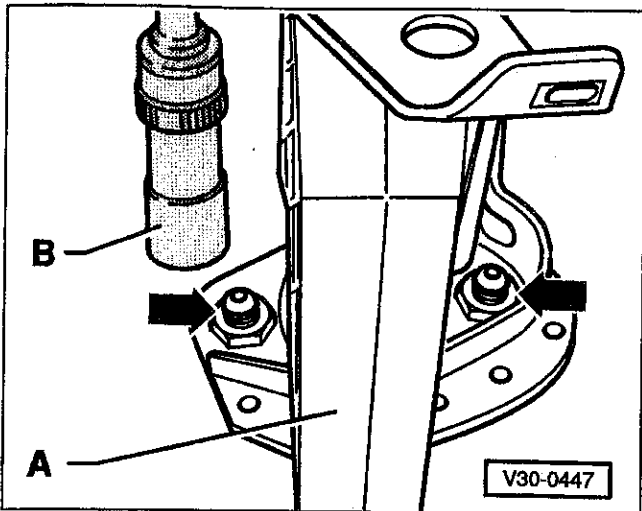

Fig. 10. Master cylinder mounting nuts (arrows). Use a 13 mm deep-well socket (B) to remove nuts. Clutch pedal shown at (A).
8. Remove master cylinder from passenger compartment by removing mounting nuts on each side of clutch pedal. See Fig. 10.